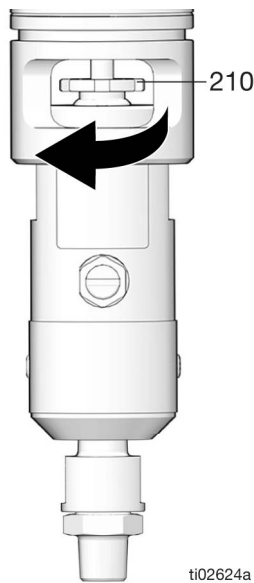

FIG. 22: Tighten packing nut
3. Tighten the packing nut housing (210) (FIG. 22).